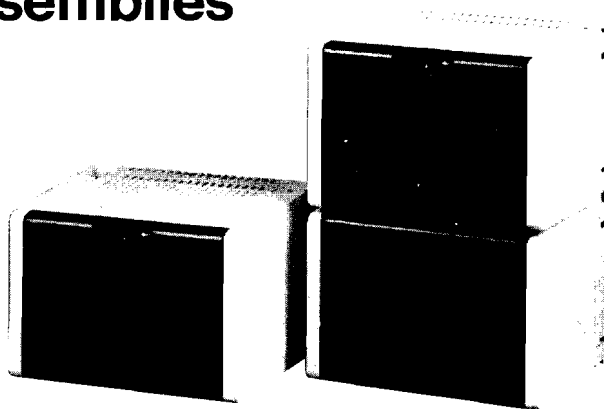

figure 1. 262-6 and 262-12 NCTE/DST Mounting Assemblies
1.01 The 262-6 and 262-12 Network Channel Terminating Equipment/Data Station Termination (NCTE/DST) Mounting Assemblies (figure 1) provide enclosed mounting for up to 6 and 12 Tellabs Type 10 modules, respectively. The 262-6 Assembly contains one integral six-position Type 10 Mounting Shelf and a -48Vdc, 1.25A power supply. The 262-12 Assembly contains two integral six-position Type 10 shelves and is available with either of two power supplies: a -48Vdc, 1.25A supply or a -48Vdc, 2.5A supply. For each assembly, a 10W ringing generator is optional. Both assemblies are universally pre-wired via a connectorized printed-circuit backplane to accept a wide variety of NCTE, DST, and/or other modules with industry-standard NCTE/DST pinouts on an interchangeable basis. Designed for customer-premises installation, these assemblies feature handsome, functional styling and lightweight yet rugged construction.